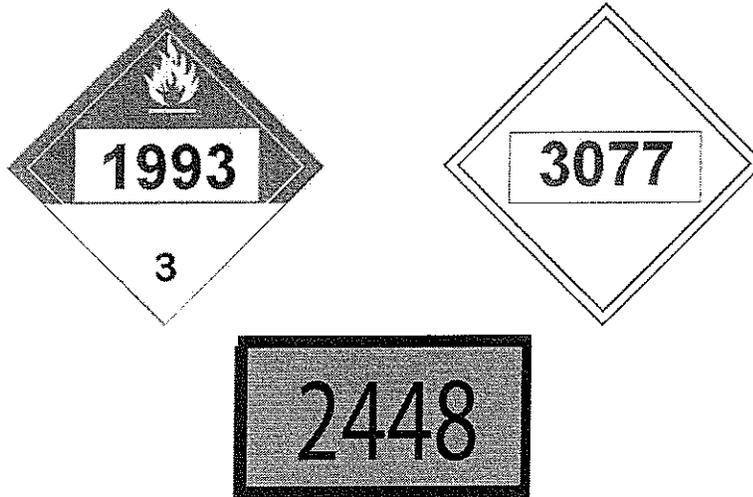

Figure 5. Identification Numbers
2. Identification numbers can be displayed in one of three ways, as Figure 5 shows: